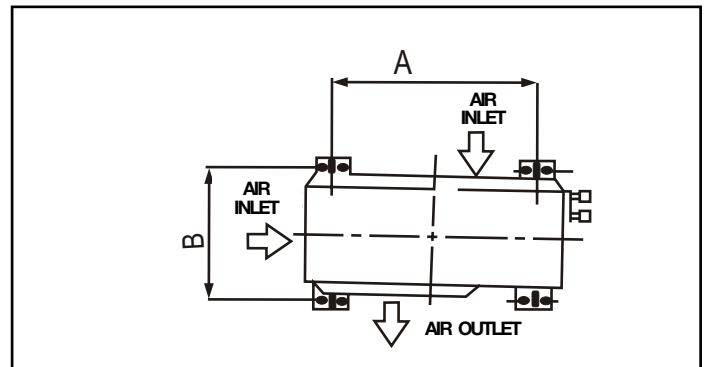

fig.10
5. Anchor the external unit firmly to a strong, rigid support, taking care to ensure that it is level. Use bolts of diam. 8mm or 10mm (fig. 10).